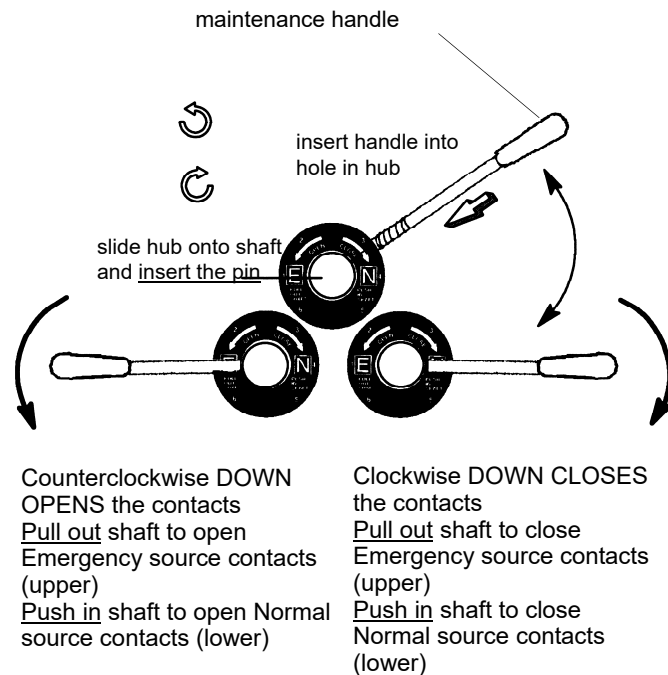

Figure 5. Maintenance handle on 7ACTS & 7ADTS.
3. 7ACTS and 7ADTS have two contact shaft hubs. See Figure 5.